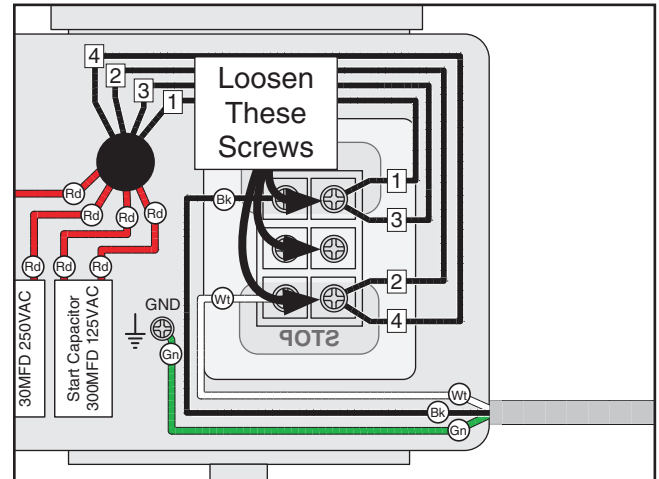

Figure 5. Location of screws to be loosened.
4. Loosen the screws indicated in **Figure 5**.